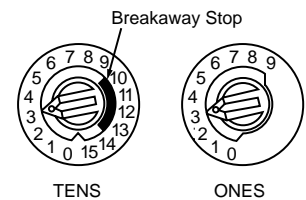

Figure 2. Rotary Address Switches
2. Set the desired address on the sensor address switches, see Figure 2.
**NOTE:** Some panels support extended addressing. In order to set the sensor above address 99 on compatible systems, carefully remove the stop on the upper rotary switch with thumb or as shown in Figure 2.